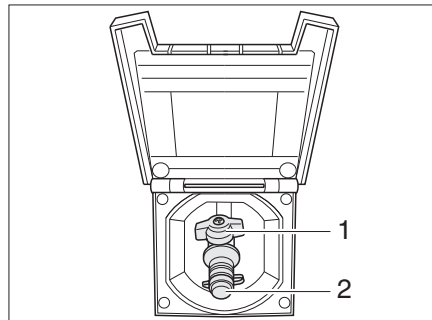

Fig. 81 External gas connection, gas isolator tap closed
The external gas connection (Fig. 81) is located at the rear or to the left or right of the vehicle depending on the model.
- Connect the external gas device to the connection point (Fig. 81,2).
- Open the gas isolator tap (Fig. 81,1).